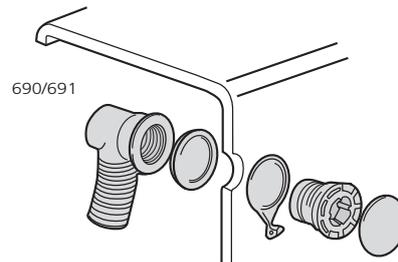

Fig.43 Connecting overflow outlets
Step 1 – Remove end cap, threaded inlet, chain ring and washer (Fig.43)